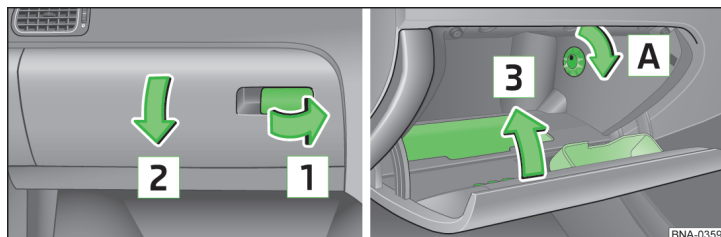

Fig. 46 Opening storage compartment / closing storage compartment and opening air supply
- To **open**, pull handle in the direction of arrow and fold down the cover in the direction of arrow » fig. 46.
- To **open**, turn the dial in the direction of arrow until it stops » fig. 46.